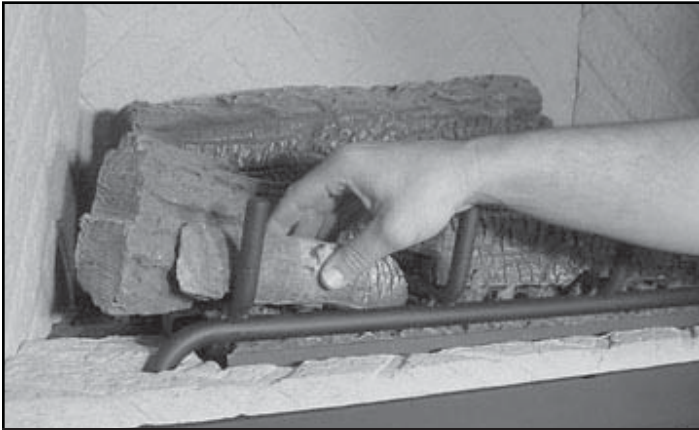

Figure 12.7 Set Left Front Log
- Place LEFT FRONT LOG on the front left corner of the far left grate bar. The rounded notch in the bottom of the log should sit over the grate bar with the remainder of the log sitting on the hearth log. See Figure 12.7.